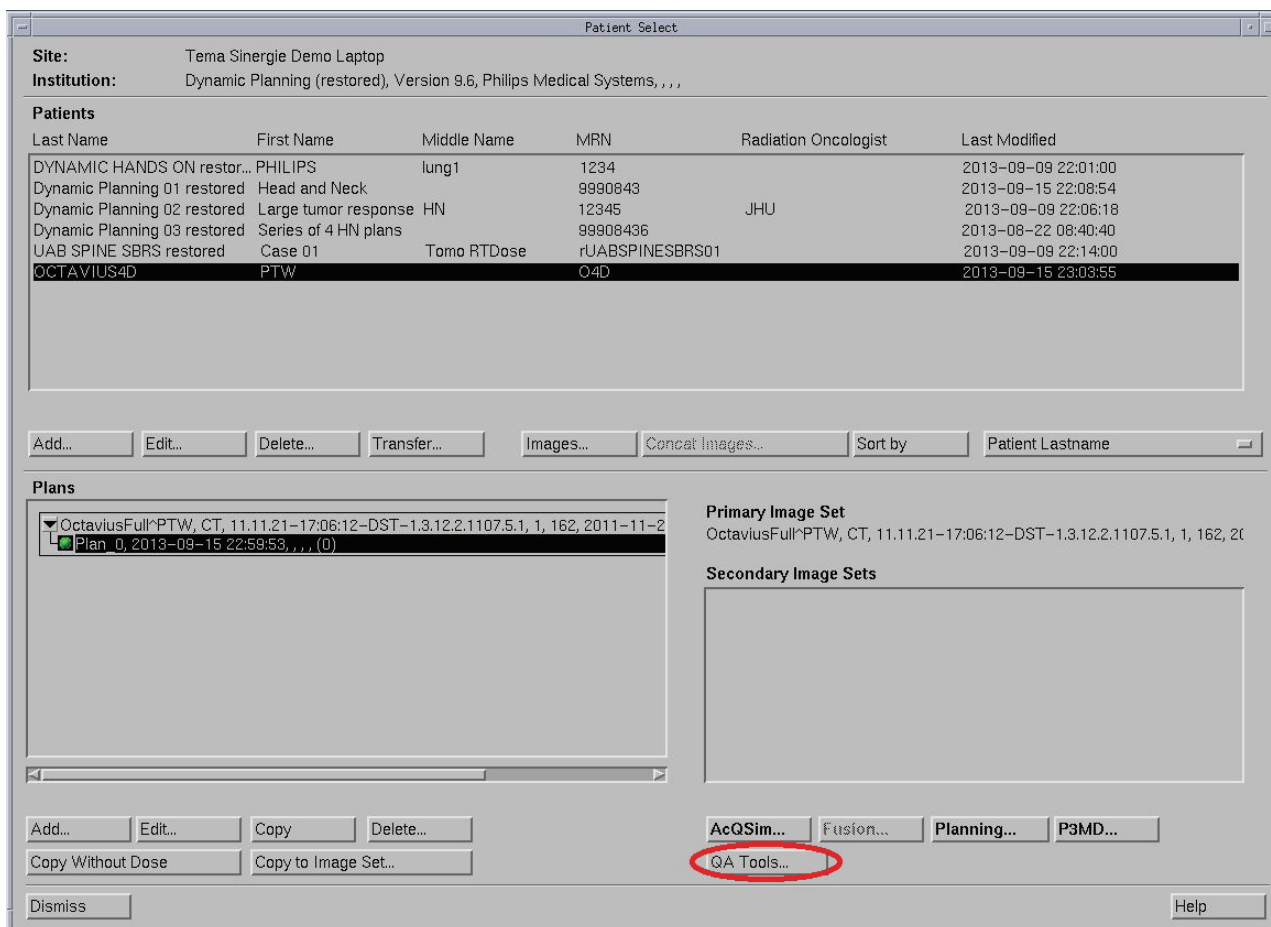

Fig. 2.12 Pinnacle³ QA Tools
10. In the **Patient Select** window, click the **QA Tools** button (Figure 2.12). The **QA Tools** window appears.